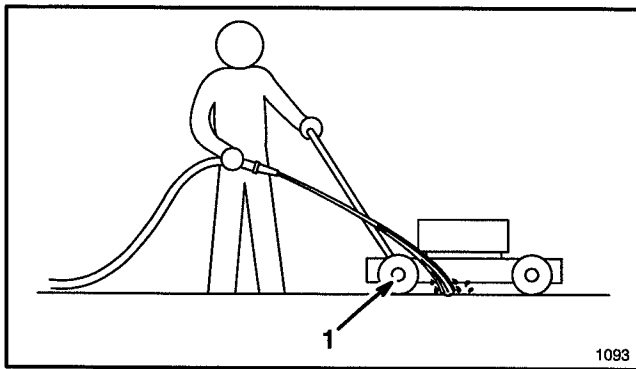

Figure 29
3. Hold the running garden hose at handle level and direct water to flow on ground just in front of right rear tire (Fig. 29). The rotating blade will draw water under the housing and wash out clippings. Let the water run for a few minutes or until you no longer see clippings being washed out from under housing.